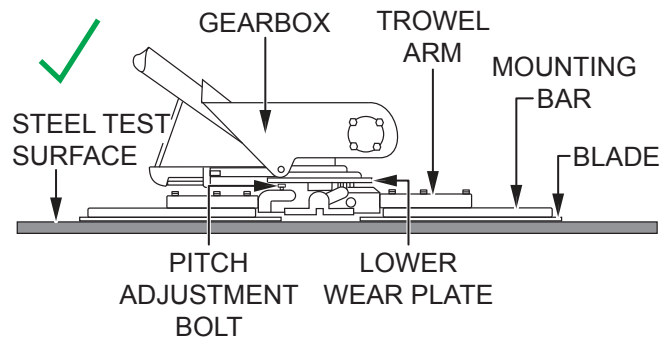

Figure 66. Blades Pitched Flat (Correct)
2. Pitch the blades as flat as possible (Figure 66). The pitch adjustment bolts should barely contact (0.10 inch maximum clearance) the lower wear plate. All adjustment bolts should be spaced the same distance from the lower wear plate. If any one of the bolts does not make contact, adjustment is necessary.